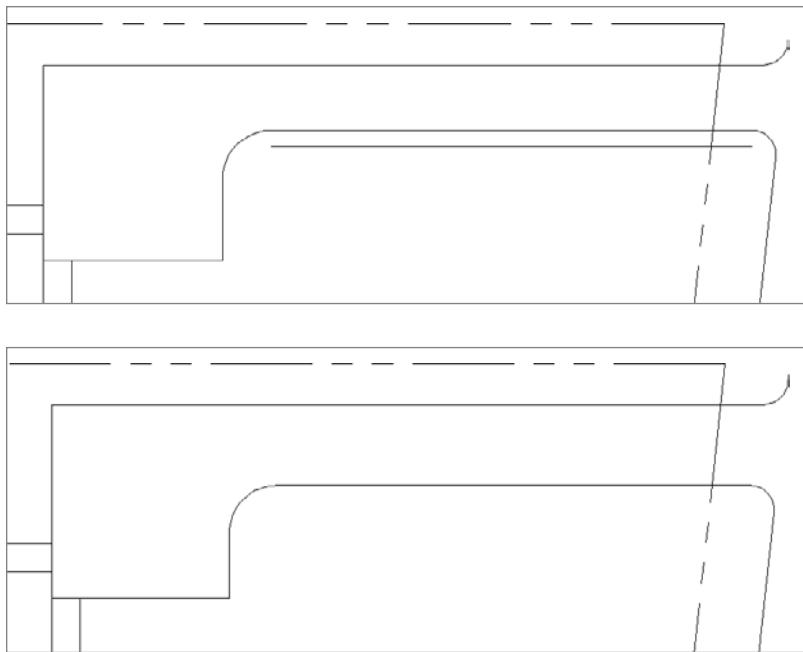

FIGURE 13.19 Offset the lower driveway line (top), fillet the new lines, and delete the existing radii (bottom).
2. Offset the lower road line 2' downward, as shown in the top of Figure 13.19.
Your driveway is now 10' wide, as shown in the bottom of Figure 13.19.